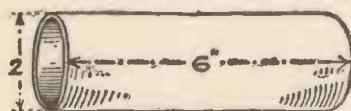

Fig. 1.—The Cardboard Cylinder.
**T**HE kaleidoscope is a most attractive little toy, and the variety and number of charming coloured designs obtainable from one is really remarkable. Our little sketch shows a completed kaleidoscope, with examples of the kind of designs that can be made with one. First procure a piece of ordinary cardboard tubing, 6 in. long and 2 in. in diameter (see Fig. 1). Into this slide three pieces of glass about  $5\frac{3}{4}$  in. long by  $1\frac{3}{4}$  in. wide, to form a triangle, as shown in Fig. 2. One surface of each piece of glass must be painted over with black poster or other paint, and care must be taken in inserting them into the tube that the unpainted sides are innermost. Over one end of the tube we next lay a stout cardboard disc, in the centre of which is cut a  $\frac{1}{2}$ -in. diameter hole through which to look. To hold this disc to the tubing, we cut a strip of stout brown paper about 7 in. long and  $\frac{1}{2}$  in. in width, and at one side of this we cut a series of niches, as Fig. 3, so that when the paper is glued round the tube, the tabs so formed will turn down on to the card disc and so hold it firmly in place.